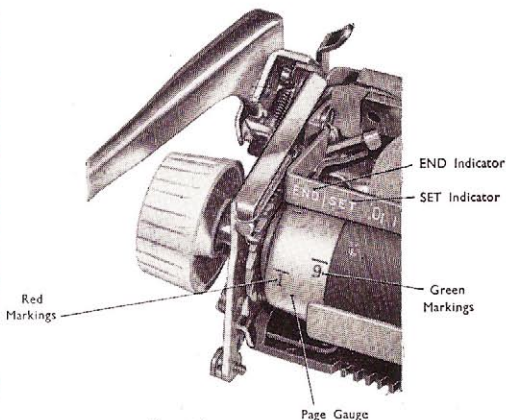

Figure 4
**Page Gauge (Fig. 4).** An exclusive Empire-Corona feature, page gauge tells how far your typing line is from the bottom of page. Green markings refer to paper length in inches; red markings are to measure the space left at the bottom of the page. Turn platen until green number indicating length of paper used is aligned under the word "Set" stamped on paper bail. Insert paper squarely to assure straight feeding, and type in usual manner.